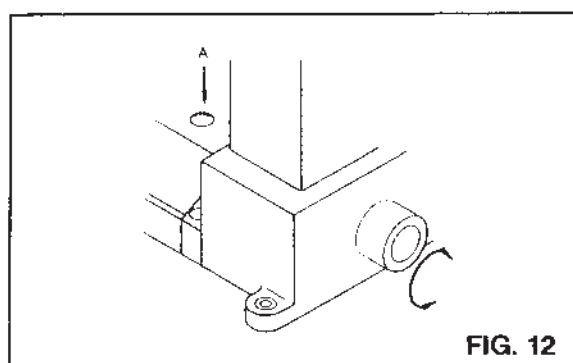

FIG. 12
Be sure to turn off motor before adjust. Push stitch length Regulator Button (A) and turn pulley until the button lock in the stitch regulator. Then, turn pulley again to reach desired stitch length. Turn pulley clockwise for longer stitch length, vice versa. Then, release the Button. (Fig. 12)